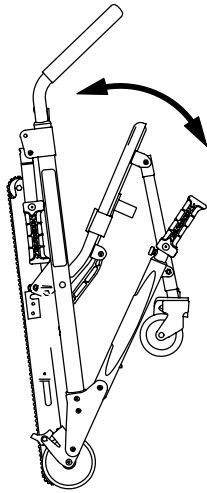

Figure 1 – Unfolding the chair
3. Pull the backrest and the extension handle apart (Figure 1).